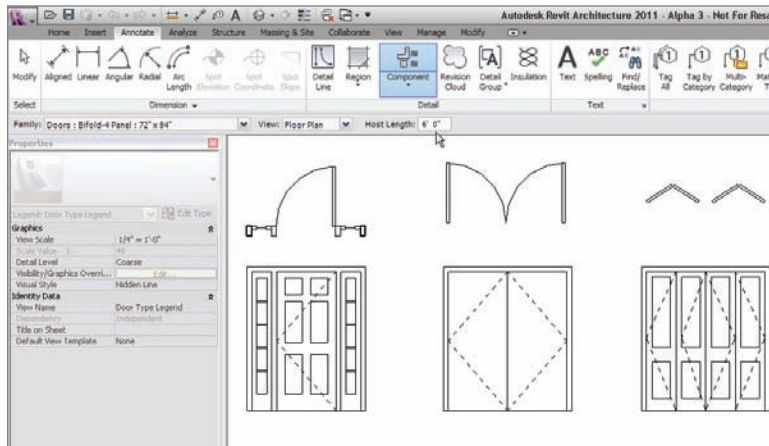

FIGURE 11.44 The three doors in the legend
11. Set the plan view's Host Length to 6'-0" (see Figure 11.44).